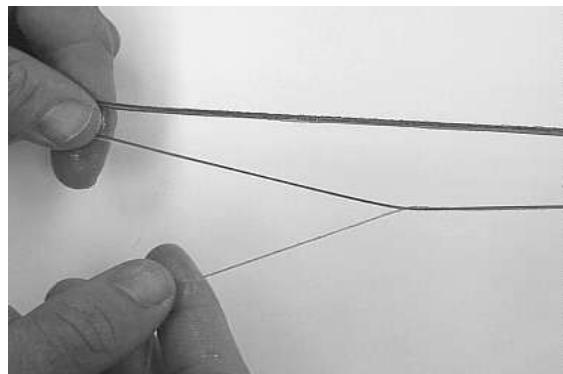

Figure 10 - Separate the fiber bundles.
4.10 For cables containing two or more fiber bundles, each fiber bundle is identified by a color-coded binder thread. To separate the fiber bundles, hold the fibers taut while gently pulling on one of the binder threads. As the binder thread tightens around the bundle, the fibers will group together for easy identification (Figure 10). Continue this process until all the bundles have been identified. Note that Mini C2 DT cable will contain white water blocking threads as well as color coded binders. The water blocking threads can be removed prior to identifying the fiber bundles.